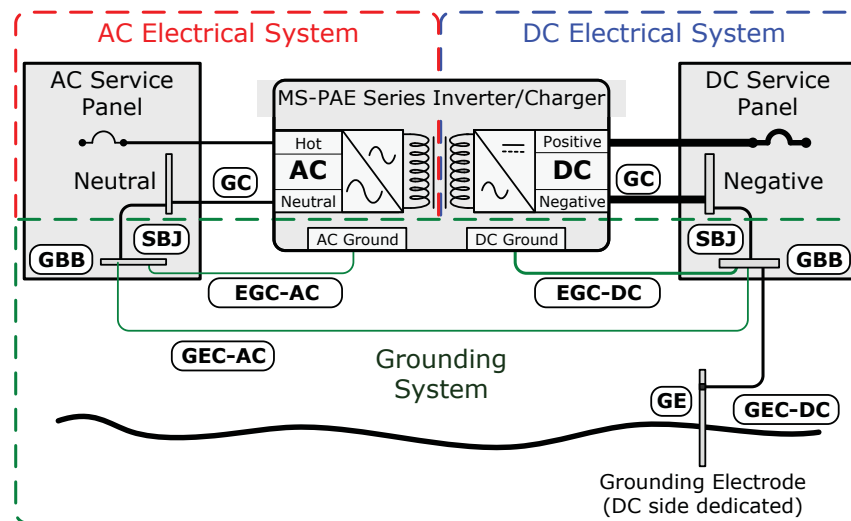

Figure 2-15, Method 3 – DC Ground Rod with Single Connection
Method 3 (see Figure 2-15): The AC grounding electrode conductor (GEC-AC) is bonded to the DC ground point and the DC grounding electrode conductor (GEC-DC) is the *only connection* to the grounding electrode (GE), which must be a rod, pipe, or plate electrode.